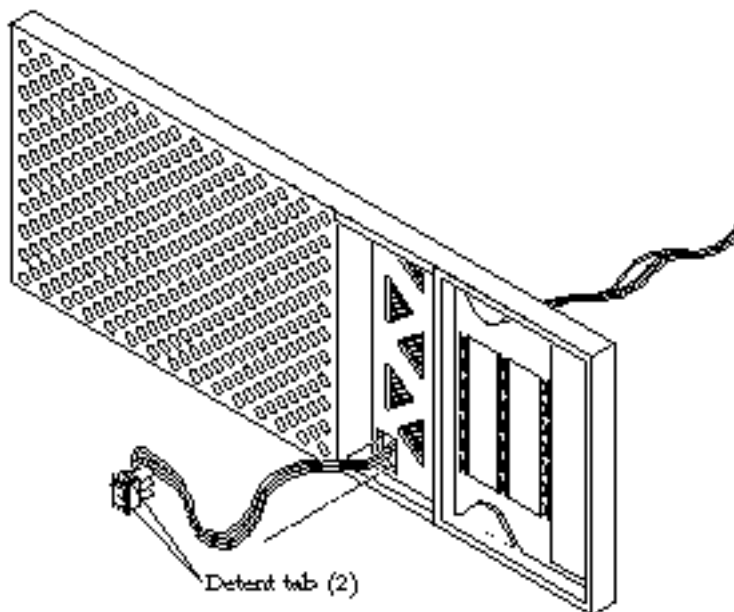

Figure 1-12 Removing and Replacing the Front Panel DC Switch Assembly
12. Remove the DC switch assembly from the front panel (Figure 1-12):
1. Replace the DC switch assembly through the front of the front panel (Figure 1-12):